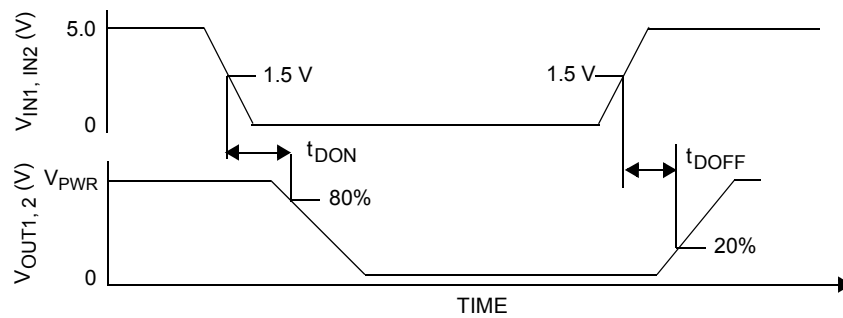

Figure 4. Output Delay Time
22. \* Output Delay is the time duration from 1.5 V on the IN1 or IN2 input signal to the 20% or 80% point (dependent on the transition direction) of the OUT1 or OUT2 signal. If the output is transitioning HIGH-to-LOW, the delay is from 1.5 V on the input signal to the 80% point of the output response signal. If the output is transitioning LOW-to-HIGH, the delay is from 1.5 V on the input signal to the 20% point of the output response signal. See Figure 4, page 10.